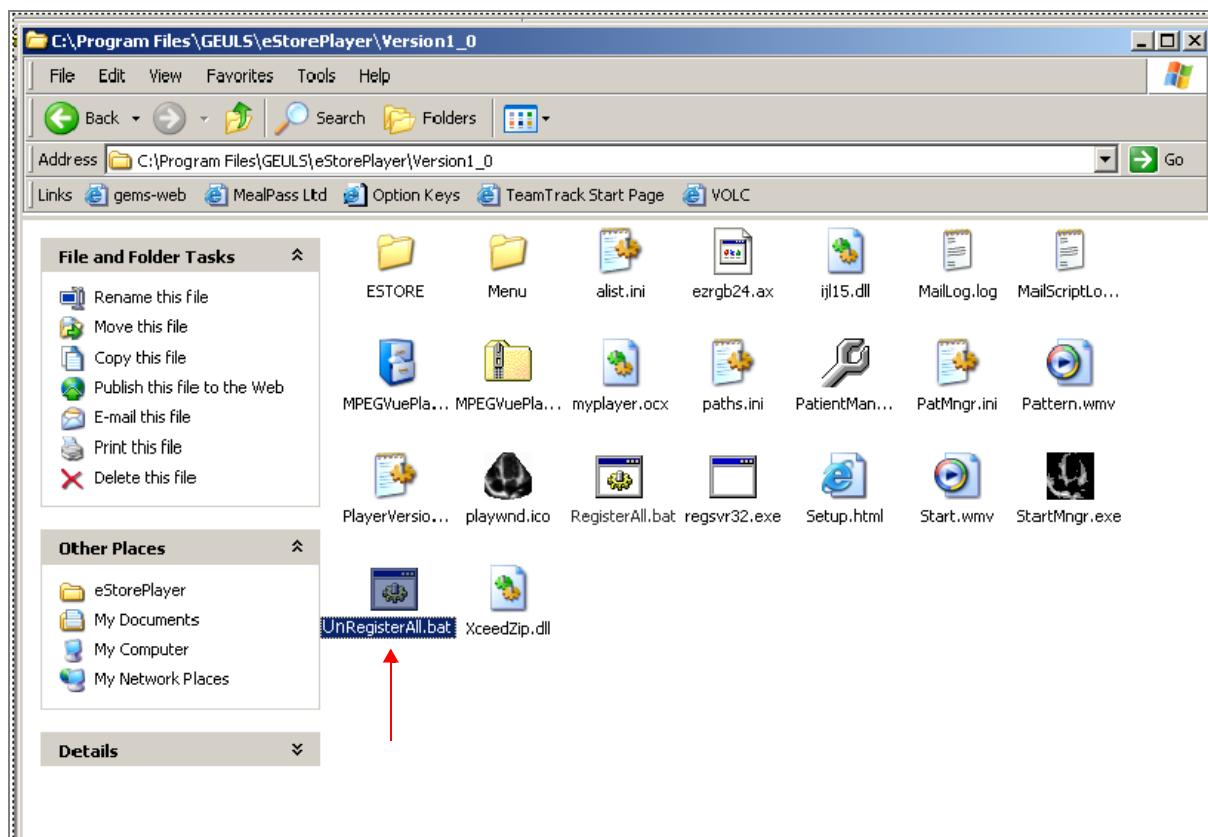

Figure 3-112 Uninstall MPEGvue - Stage 1
- 3.) From the C:\Program Files\GEULS\eStorePlayer\Version1_0\ folder, double-click on the **UnRegisterAll.bat** icon, as shown in Figure 3-112 below.